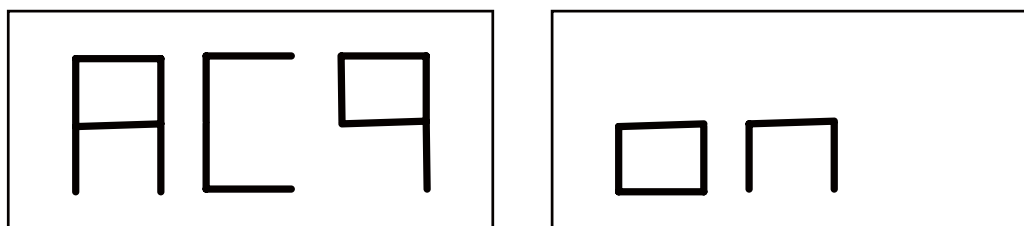

Fig. F3.10 - “Balancing planes acquisition enabled” message
2. Select the plane balancing acquisition mode by pressing [P2] until the writing ACQ is viewed on the left display as shown in figure F3.10. When the machine is switched on, the acquisition mode is set by default ;